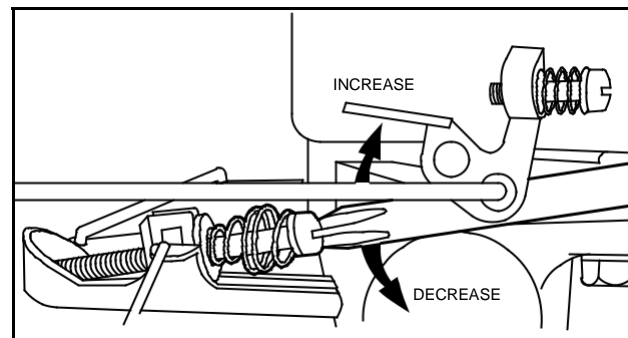

Fig. 32 – Top-No-Load Adjustment Screw
5. While holding rod in this position, adjust Top-No-Load adjustment screw, Fig. 32, to obtain Top-No-Load RPM for the generator type shown in Table 1.